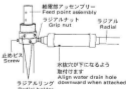

Fig. 2
6. Screw radial trap assemblies with radial elements to radial holders with hands. Then align water drain holes of radial trap downward and fasten them with grip nuts as shown in Fig. 2. To concentrate radials on one direction, place 3.5 MHz and 7 MHz radials at both ends and others on center.